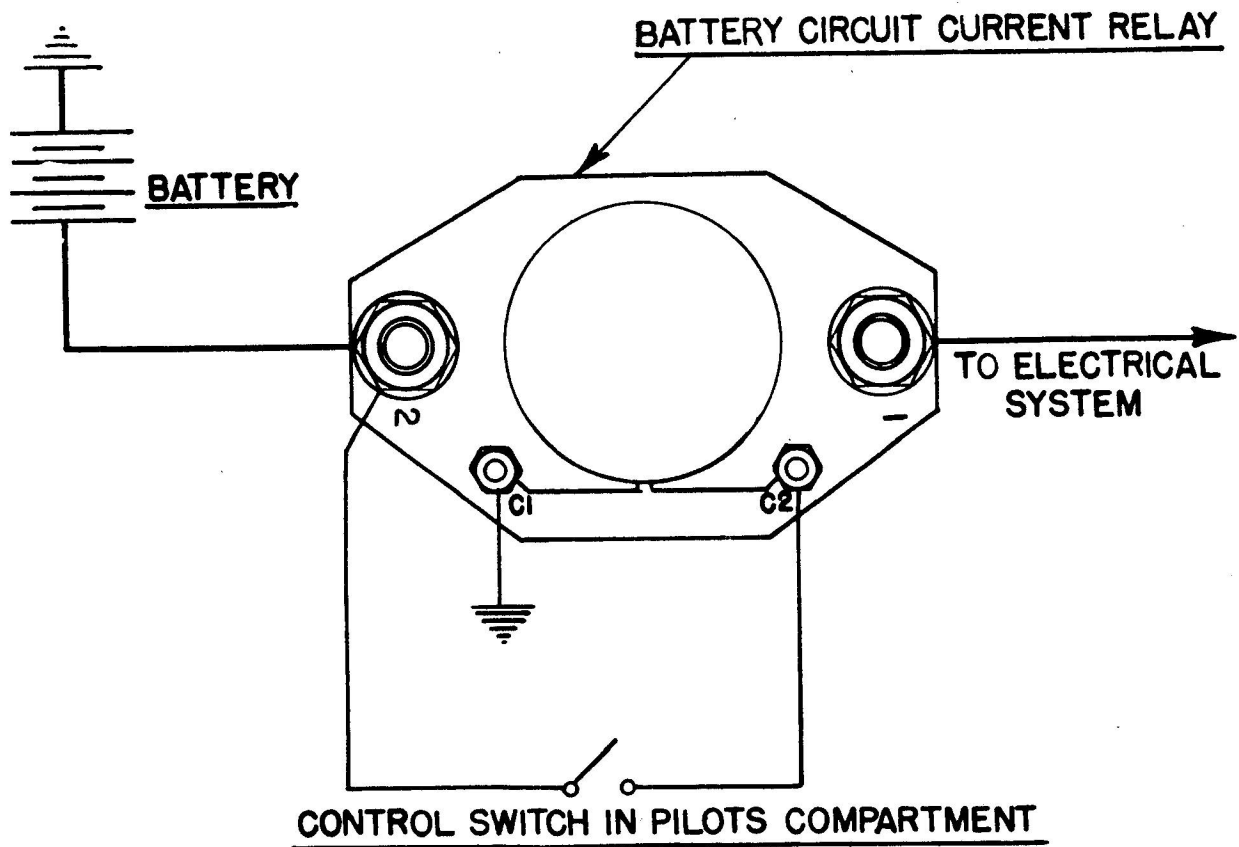

FIG. 3 - WIRING DIAGRAM - TYPE B-4 BATTERY AND STARTER
b. Performance. - (1) The battery and starter circuit relay is designed to provide a means of remotely controlling the opening and closing of the battery or starter circuit and is so designed that it will withstand continuous operation of a 29.0 volt, direct current source of power.
(2) The relay contacts will close firmly with a maximum, direct current potential of 18.0 volts applied to the terminals of the holding coil and will hold closed on 7.0 volts or less, when the closing voltage applied to the holding coil is reduced from 18.0 to 7.0 volts, after one hour of continuous operation on 18.0 volts. The current consumed by the relay holding coil, when operated on 29.0 volts direct current, does not exceed 0.5 amperes.
a. Installation. - (1) Battery Circuit Current Relay: The relay can be installed in any position by means of the bracket provided, as close to the battery as is practical. Refer to the wiring (figure 3) for electrical connections and wire sizes. See Airplane Wiring Diagram for the particular airplane on which this equipment is to be installed.
(2) Control Switch: A suitable control switch should be installed in the pilot's compartment to permit remote control of the relay, when desired. Make electrical connections as shown in wiring diagram (figure 3).